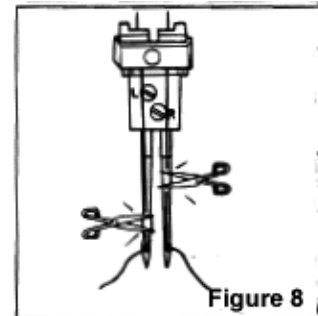

Figure 8
3. Clip the needle threads directly in front of the eye of the needle. (It is not advisable to attempt to pull the knot through the eye. This may bend or break the needle). Figure 8